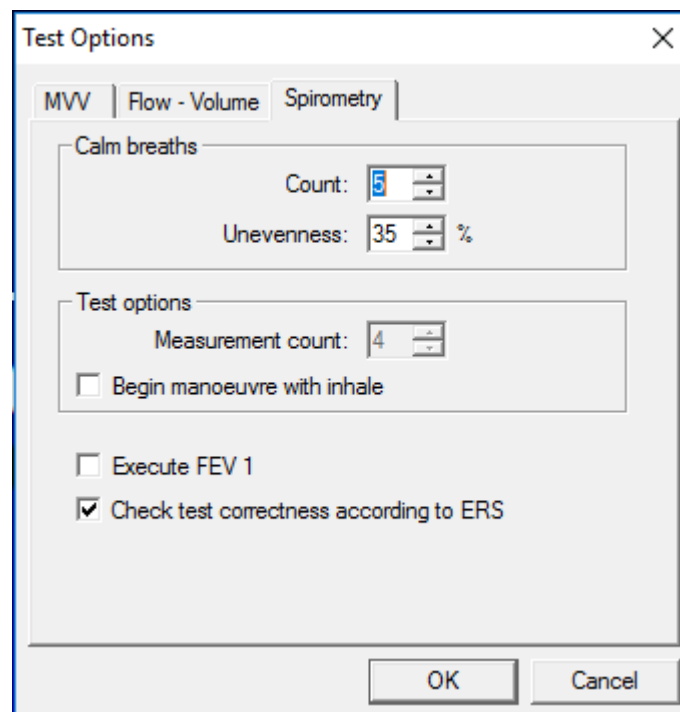

Fig. 5. Dialogue box *Test options* – *Spirometry*.
Test options are accessible on the fold *Spirometry* (⇒Fig.5) of the dialogue box *Test options* (⇒Chapt.3, item 2).